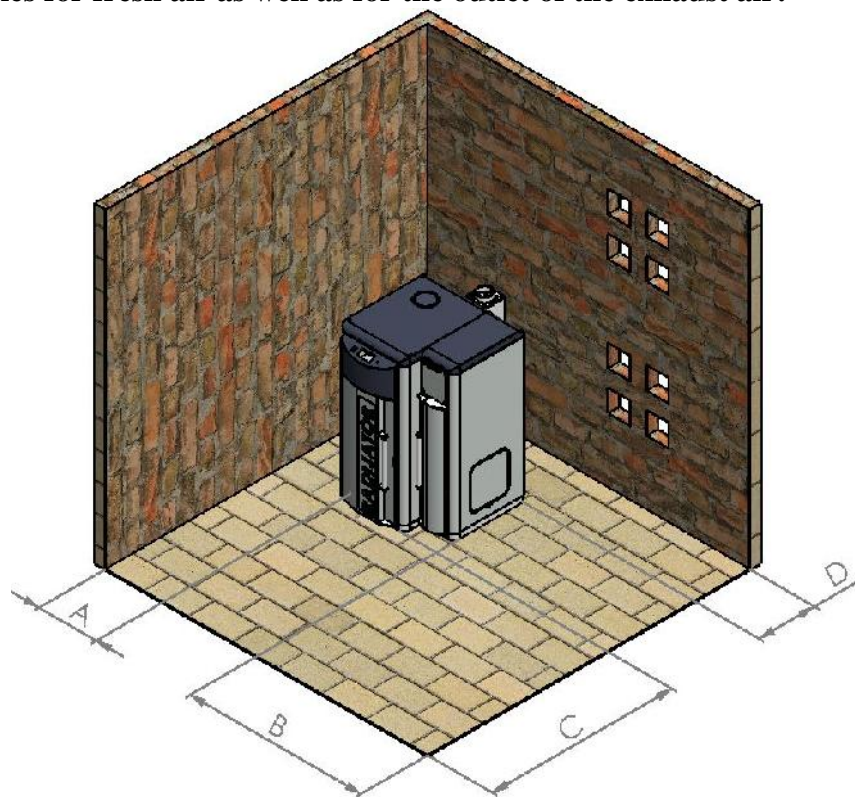

Figure 8. Positioning of boiler in the Boiler room
- The boiler must be located at a safe distance from combustible materials. The boiler must be far enough from possible obstacles in the boiler room for cleaning and maintenance. See **figure 8**.
The support surface of the boiler in the boiler room must be of non-combustible material. Recommended distance of all four sides of the boiler in relation to the boiler walls or other solid body (water heater, etc.) are shown in **Figure 8**. These values allow a safe distance access when firing, sufficient space for cleaning and easy access to fan and valve for filling and emptying. Boiler at its left hand side should be away from the wall 200 mm i.e. as much as needed for the connection of valves for thermal safety by over flow. If the valve is not to be installed then the space can be smaller. The flap handle for firing is removable and can be placed either on the left or right side of the boiler. The space on the right side of the boiler, which is recommended to be at least 1000mm from the silos is important because after cleaning the boiler the user then goes and pulls out the ashtray from the back of the firebox. **Boiler room must have sufficient ventilation holes for fresh air as well as for the outlet of the exhaust air!**